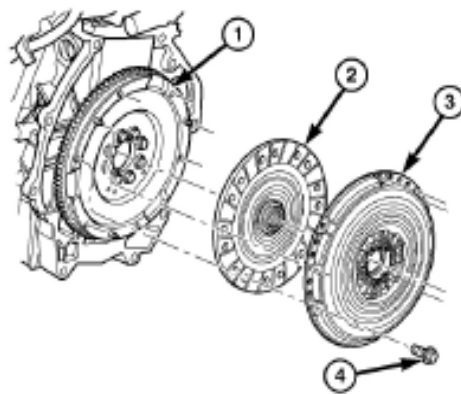

Figure 3-5 Clutch plate and pressure plate
- (4) Mount the flywheel and screw on bolts for crankshaft to 95Nm (70 ft. lbs.).
- (5) Apply a thin layer of grease to the spline of clutch disk hub.
- (6) Mount the clutch disk on the flywheel and make sure the side with FLYWHEEL SIDE towards the flywheel.
- (7) Assemble the clutch pressure plate on the flywheel and clutch disk (Figure 3-5) and screw down the 6 bolts for pressure plate and flywheel manually.